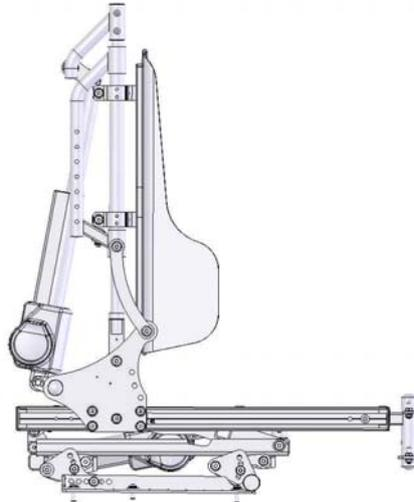

Figure 5-89
5.3.6.1 KISS Seat with Tilting option is shown as Figure 5-89